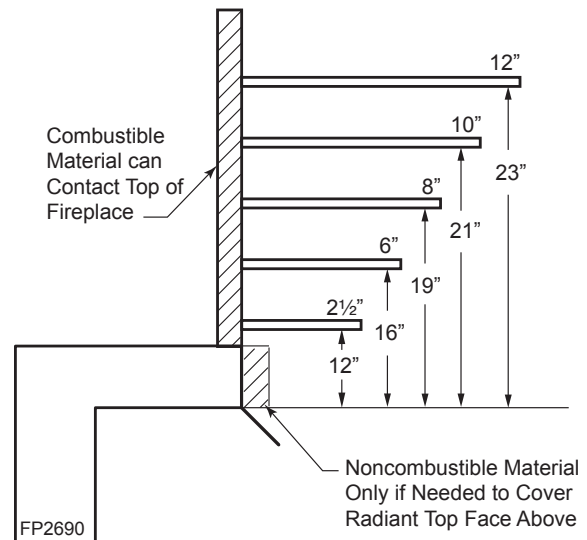
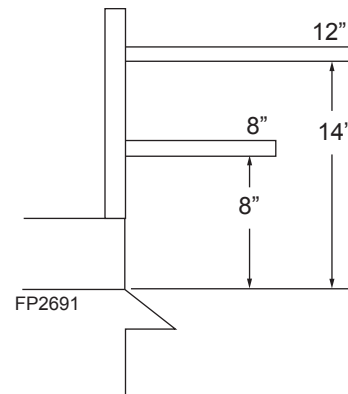

Figure 7a -
Figure 7b -
5. **Mantel clearances:** The canopy supplied with the unit must be installed. If a combustible mantel is installed, it must meet the clearance requirements as shown in *Figure 7a*. However, if lower mantel height is desired, Refer to Page 15 and *Figure 7b* for canopy options.